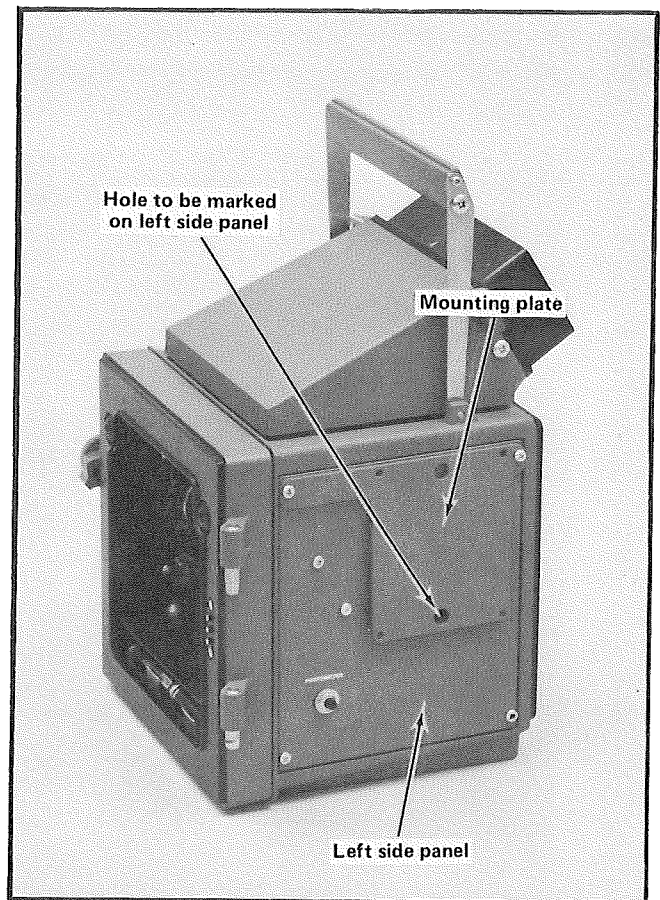

Fig. 2-8. Correct placement of Writing Speed Enhancer control box mounting plate on the left side panel of the C-59 camera.
4. Place the Writing Speed Enhancer mounting plate on the camera side panel in the manner shown in Fig. 2-8.
5. Mark the center of the mounting plate's large hole (see Fig. 2-8) on the camera side panel. Drill the marked hole with a 9/32-inch diameter drill. The finished hole in the side panel should have a diameter of 0.281 inch, ± 0.015 inch.